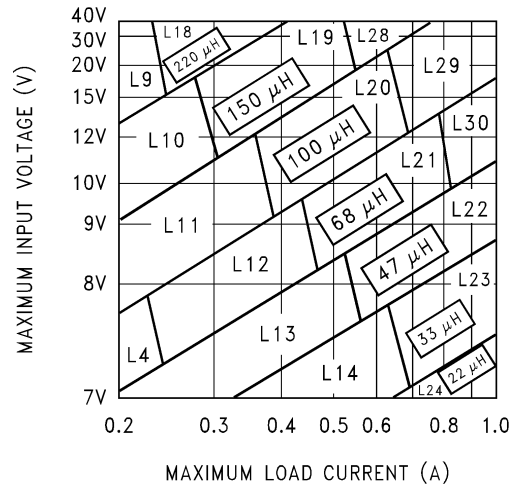
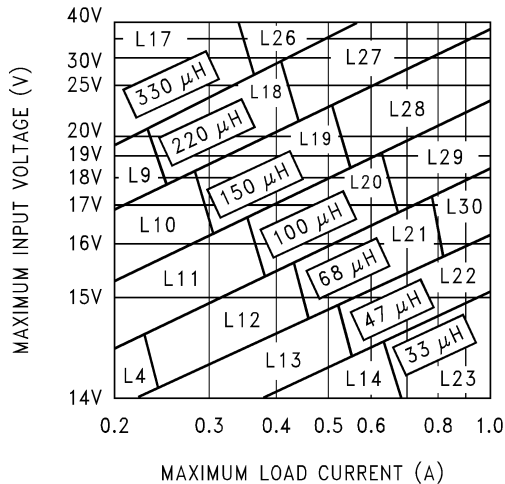

Figure 26. LM2598-5.0
Figure 27. LM2598-12
A. Select the correct inductor value selection guide from Figures Figure 25 , Figure 26 , or Figure 27 (Output voltages of 3.3V, 5V, or 12V respectively.) For all other voltages, see the Design Procedure for the adjustable version.	A. Use the inductor selection guide for the 5V version shown in Figure 26 .
B. From the inductor value selection guide, identify the inductance region intersected by the Maximum Input Voltage line and the Maximum Load Current line. Each region is identified by an inductance value and an inductor code (LXX).	B. From the inductor value selection guide shown in Figure 26 , the inductance region intersected by the 12V horizontal line and the 1A vertical line is 68 μH , and the inductor code is L30.